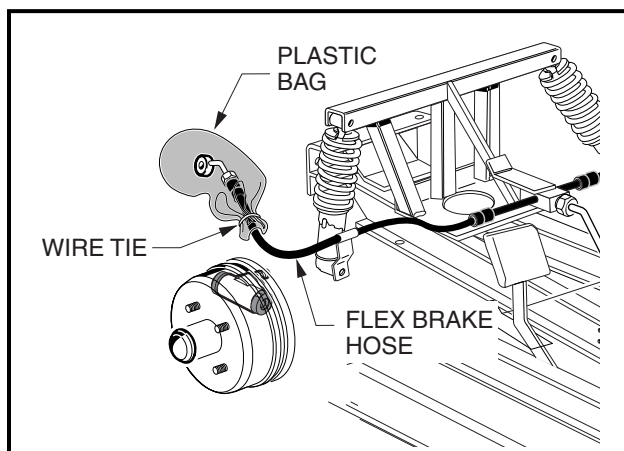

Figure 6-15 Front Brake Hose With Plastic Bag
3. Lift the hose above the brake cluster assembly and place a plastic bag over the hose fitting to keep dirt and debris from entering the hydraulic brake system (**Figure 6-15, Page 6-17**).
4. Lift the hose above the brake cluster assembly and place a plastic bag over the hose fitting to keep dirt and debris from entering the hydraulic brake system (**Figure 6-15, Page 6-17**).